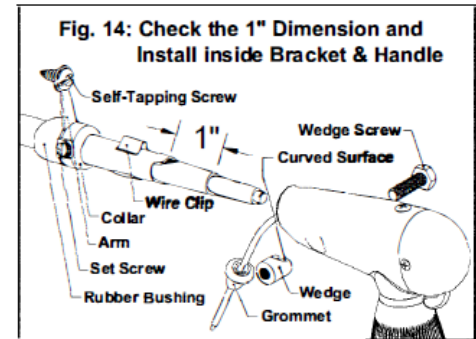

Fig. 1
- C) Disconnect lead wire from the power source and then removed the handle assembly. **Always keep lead wire disconnected from power during removal and installation of handle assembly.** Test the light by applying 12 V DC power to the rod contact. (Fig.1)
- i) Check the 1" dimension of the exposed intermediate tube (Fig. 1). If it measures at least 1", replace the handle assembly with a new one, and then install the new handle assembly. If it measures less than 1", continue to the next step.